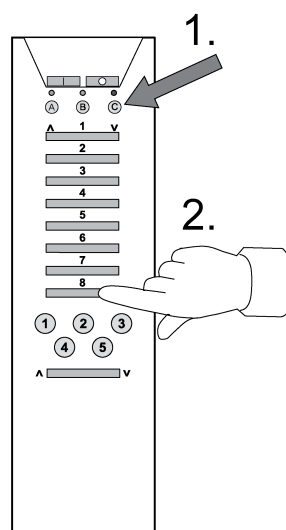

Figure 3
- Using the radio hand transmitter: Select channel group **C** and then press channel button **8** ( $\wedge$  or  $\vee$ ) for longer than 1 second (Figure 3).